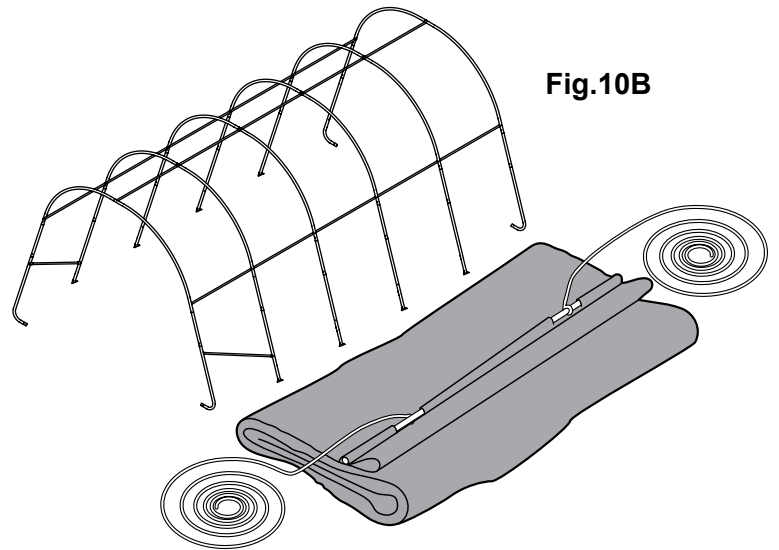

Fig.10B
B. Fold over the side closest to the frame so the pipe pocket is now accessible. Insert a cover pipe at the first middle rib from the front and the first middle rib from the rear so that it is inserted in the pipe pocket on both ends of the pipe but the center of the pipe is exposed. For long buildings it may be necessary to use additional pipes in the middle. Fig. 10B.